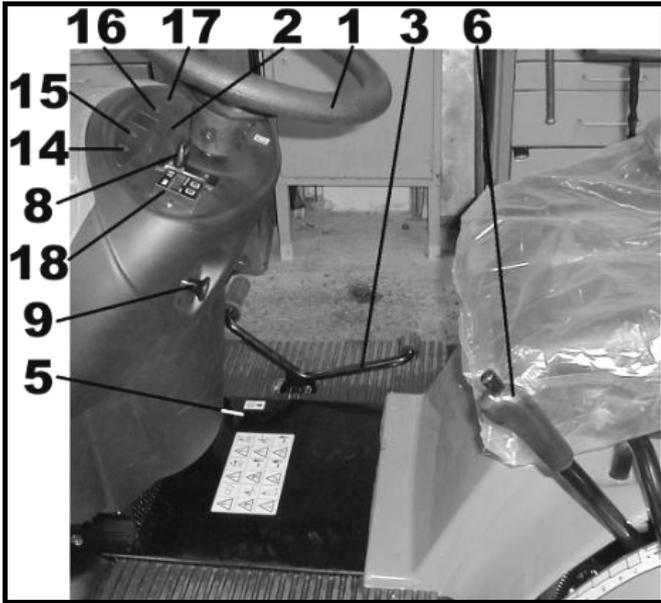

Fig.3a
### 4.1 Operation – Fig.3a, 3b, 3c
**The machine is equipped with automatic checking of the contents of the bag.** (This means that when the bag is full there is the automatic disconnection of the electromagnetic clutch of the drive for the cutting mechanism). The automatic check is activated by the AUT-MAN switch (Fig.3c, position 13), switching to the AUT position. (When switching into the MAN position there is the disconnection of the automatic checking). **In the case of starting the drive of the cutting mechanism and following the filling of the bag, the drive of the cutting mechanism is automatically disconnected.** The filling of the storage tank is indicated by the signal lamp (Fig.3a, pos. 17). The activation of the drive of the cutting mechanism is possible after emptying the bag. (In the case of cutting in the MAN position, the bag is filled more than in the AUT position, however, the any further cut grass remains on the lawn. The use of the MAN position requires a skilful operator!)